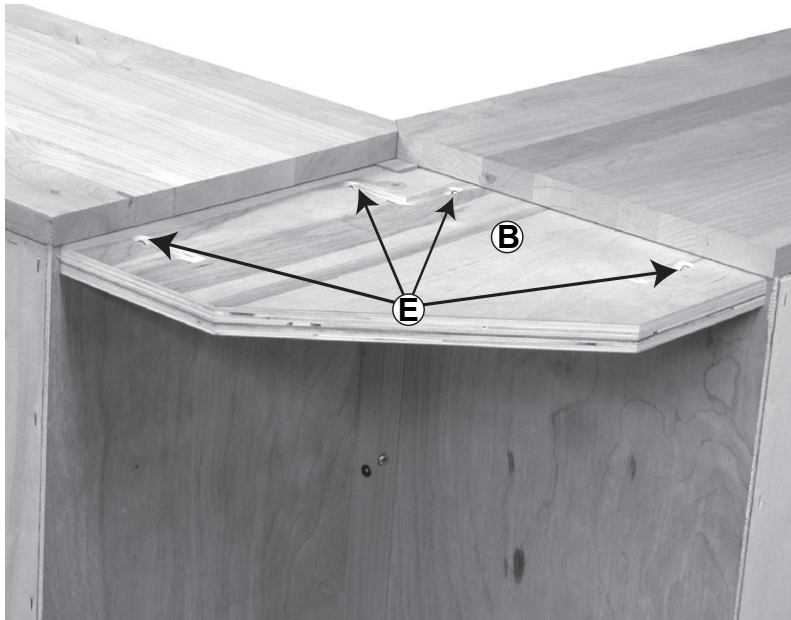

Fig. 3
3. Making sure the pocket-drilled holes face up, align the holes in the Upper Corner Brace (B) to the pre-drilled holes in the sides of the bookcases. Attach with four #8x1¼" Pan Head Screws (E). See Figure 3.